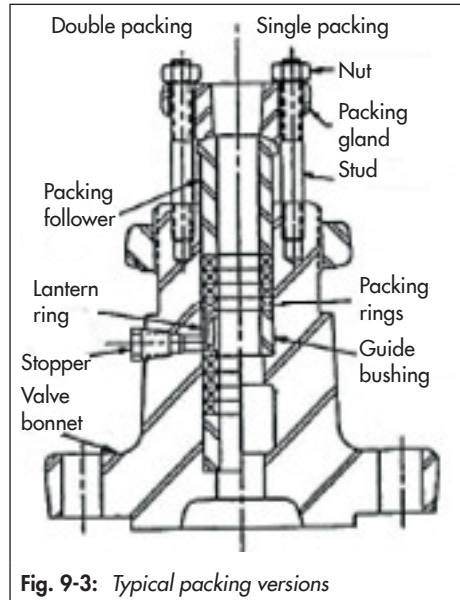

Fig. 9-3: Typical packing versions
9. Carefully slide the packing parts (especially in the threaded section) over the plug stem into the packing chamber using a suitable tool. Make sure to observe the proper order (see Fig. 9-3).
ing a suitable tool. Make sure to observe the proper order (see Fig. 9-3).
22. Carefully slide the packing parts (especially in the threaded section) over the plug stem into the packing chamber using a suitable tool. Make sure to observe the proper order (see Fig. 9-3).